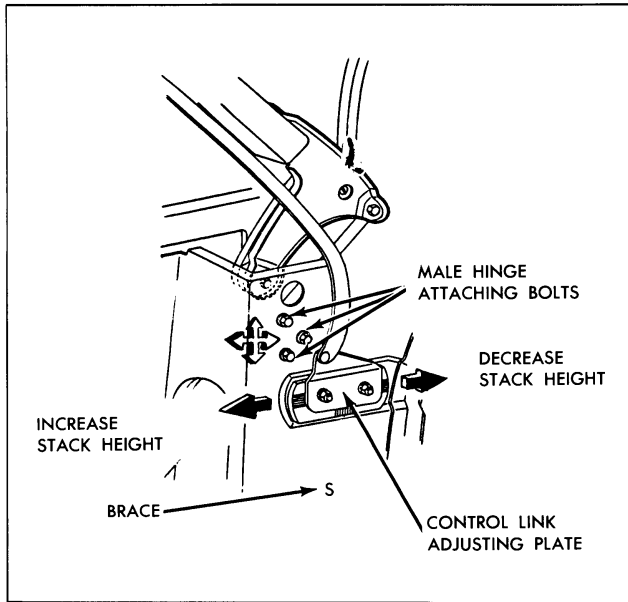
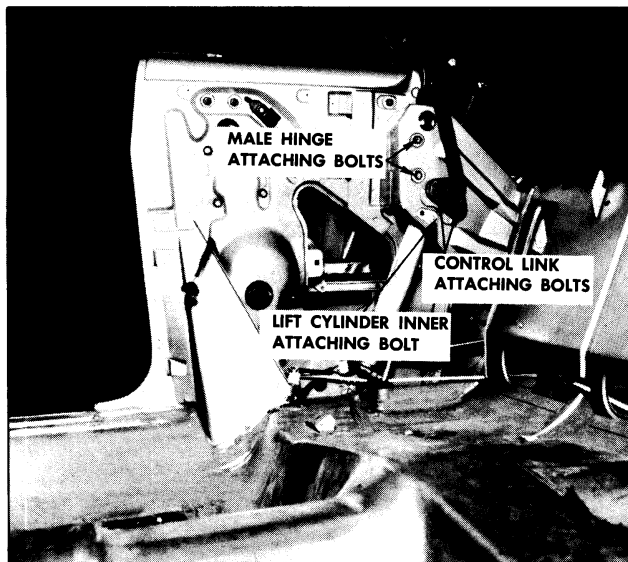

Fig. 21-5 Pontiac Control Link Adjustment
Fig. 21-6 Tempest Control Link Adjustment
- c. Loosen two bolts securing control link adjusting plate sufficiently to permit adjustment of plate (Figs. 21-5 and 21-6).
b. Loosen male hinge assembly attaching bolts (see Figs. 21-5 and 21-6).
3b. Male hinge assembly misaligned.	3b. Adjust male hinge assembly rearward (Pontiac, Fig. 21-5; Tempest, Fig. 21-6).
4b. Male hinge assembly misaligned.	4b. Adjust male hinge assembly forward (Pontiac, Fig. 21-5; Tempest Fig. 21-6).